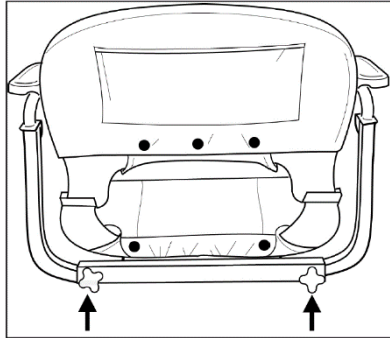

Figure 6. Armrest Width Adjustment
1. Loosen the adjustment knobs at the rear of the seat. *See Figure 6.*